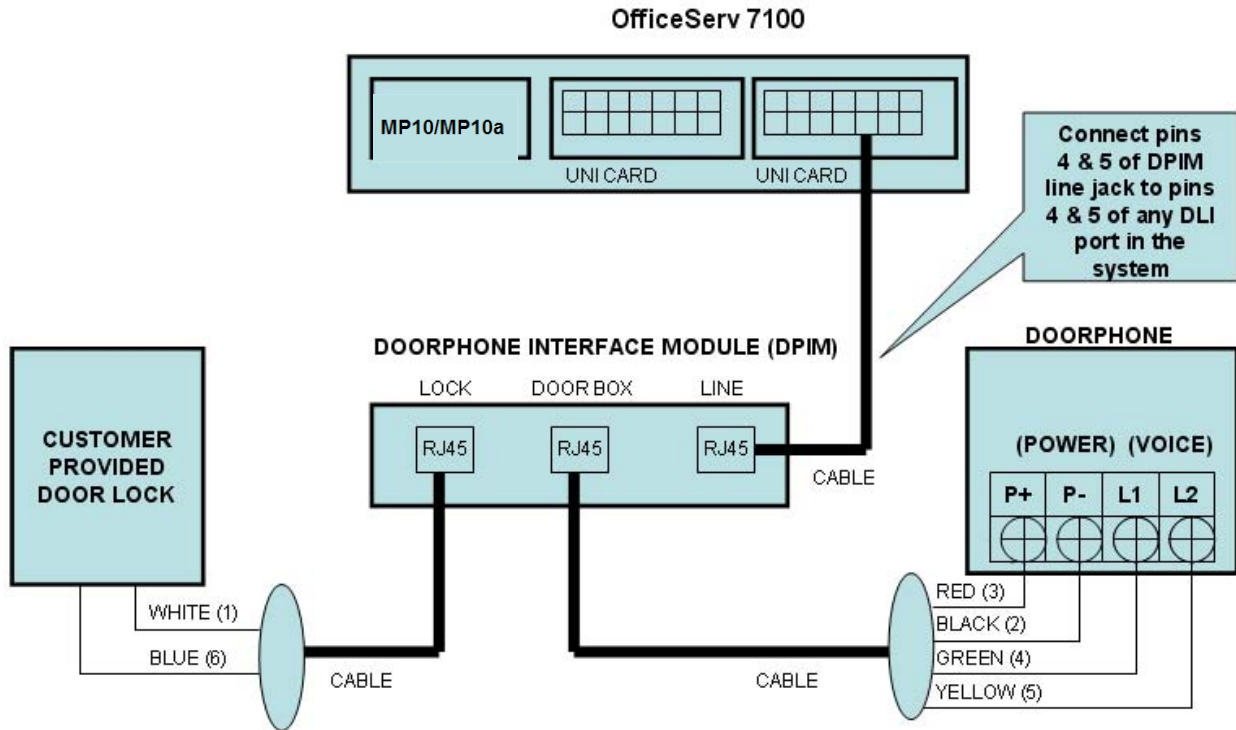

Figure 7.10 Connecting a Door Phone and a Door Lock
- 1) Connect the Door Phone Interface Module (DPIM) line jack to any DLI port in the OfficeServ 7100 system using twisted pair (24AWG/26AWG). Use MMC 221 to assign a directory number to the doorphone. See figure 7.10.
- 2) Connect the Door Phone to the DPIM-door box jack using 4 conductor twisted pair cable. See figure 7.10 for power and voice pair pin assignments.
- 3) If required connect a custom provided door lock to the lock contact pair on the DPIM using twisted pair wire (24/26 AWG) as indicated in figure 7.10.